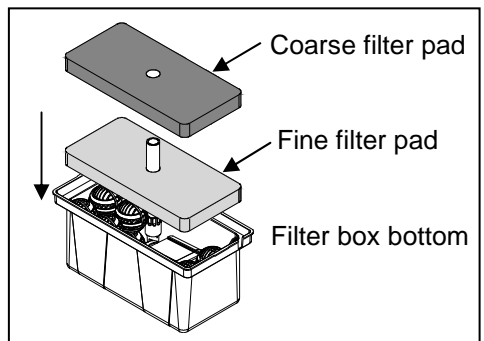

Fig. 4
4. Place one of the fine filter pads over the bio-balls and pump. Then place one of the coarse filter pads over the fine filter pad. Fig. 4